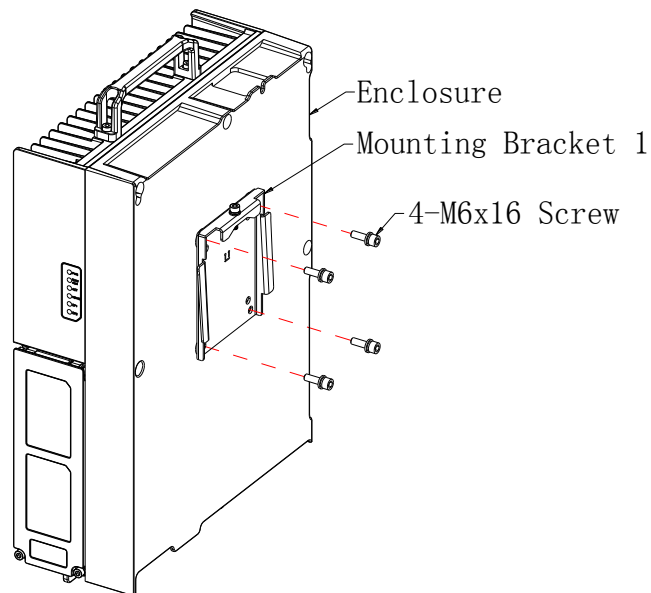

Figure 4 RRH Hanger Installation Diagram
Step 1: take out the RRH from the package, use 4 M6 x 16 screws to fix the mounting bracket 1(RRH-3522-5831) to the RRH enclosure, as shown in Figure 4.